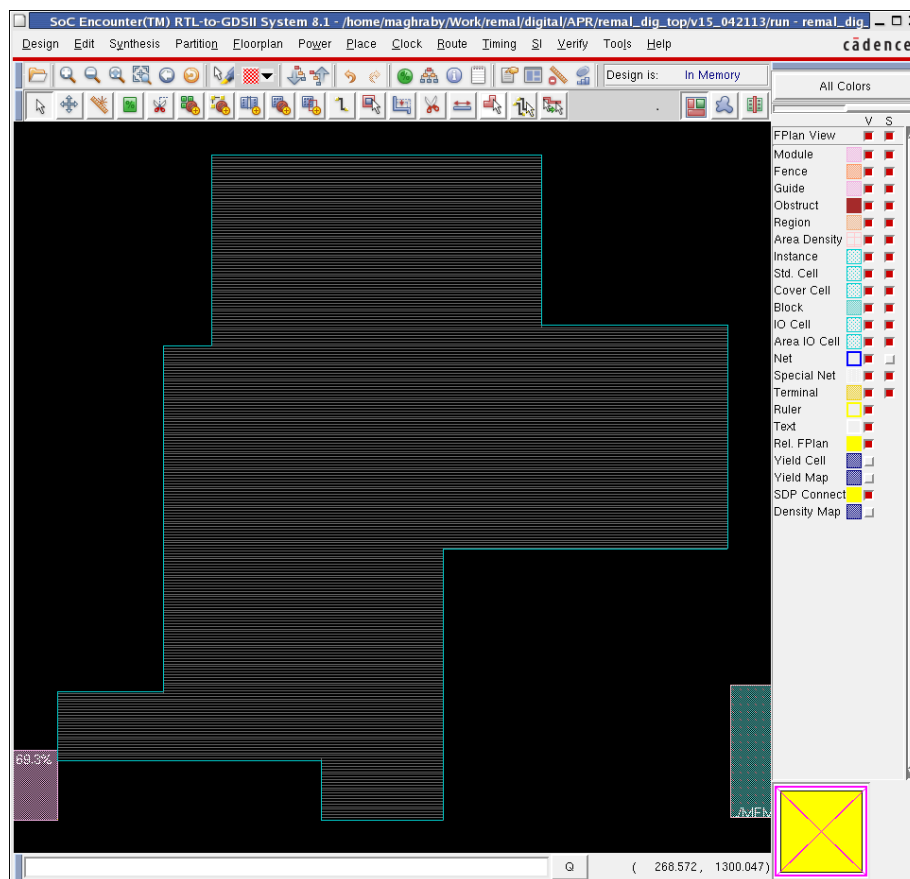

Figure 3 Floor plan design
- 7- Now you designed the icon view on Encounter as shown in figure 3.